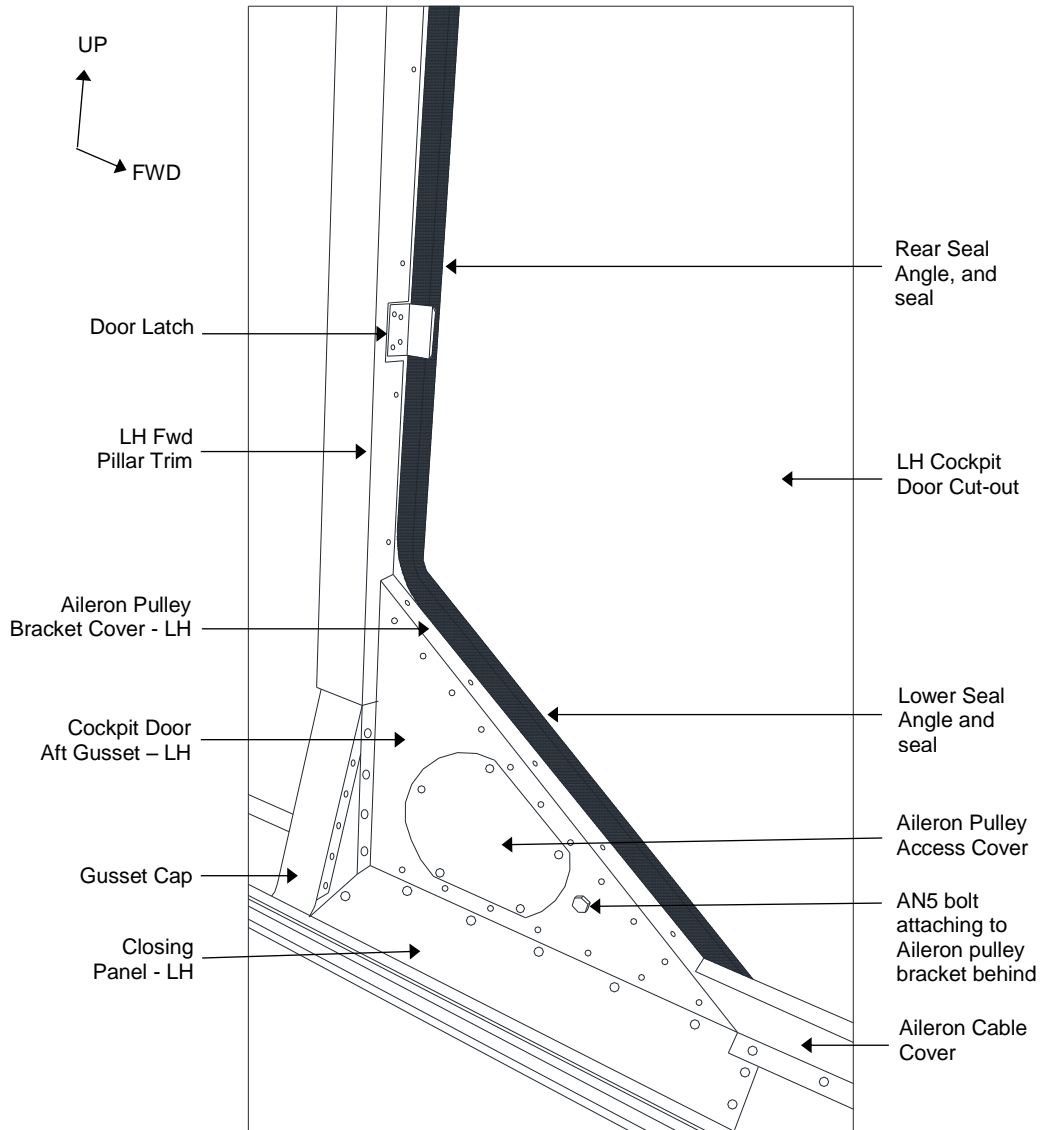
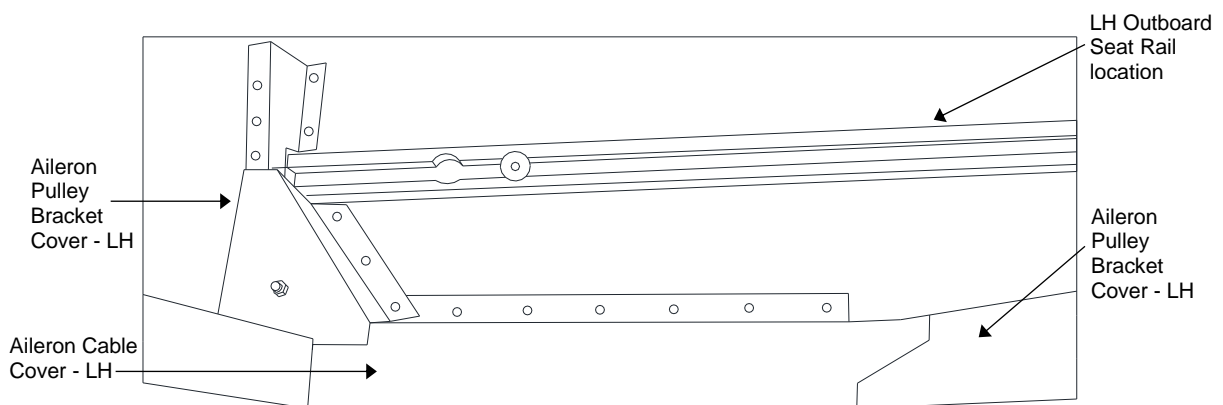
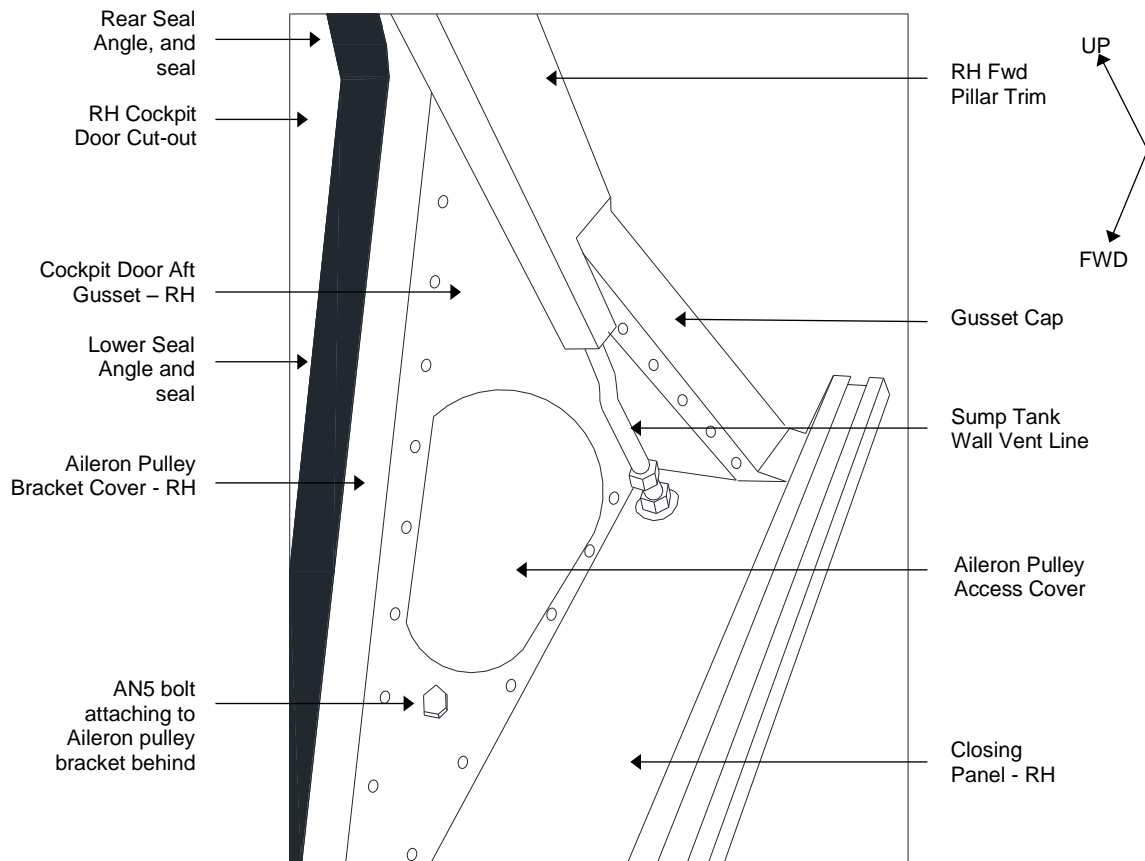

Figure 16: Cockpit Door Aft gusset – Component Removal at Rib 5 LHS
Figure 17: Structure forward of Aileron Pulley bracket cover which may need to be removed.
Figure 20: Cockpit Door Aft gusset – Component Removal at Rib 5 RHS
- 1) Remove the LH Fwd Pillar Trim (GA8-252025-093) (See Figure 16).
- 2) Remove the Rear Seal Angle (GA8-534027-023), Lower Seal Angle (GA8-534027-025) and the seals attached to them, to provide access to the Aileron Pulley Bracket Cover -LH (GA8-533022-091) (See Figure 16).
- 4) Remove the Aileron Pulley Access Cover (GA8-533022-171) (See Figure 16).
- 5) Remove the AN5 bolt from aileron pulley bracket, and remove spacer at rear of the Cockpit Door Aft Gusset – LH (GA8-533022-087) (See Figure 16).
- 9) Remove the Cockpit Door Aft Gusset - LH (See Figure 16).
- a. Aileron Pulley Bracket Cover – LH (GA8-533022-091) as shown in Figure 16 and Figure 17;
- 3) Remove the RH Fwd Pillar Trim (GA8-252025-095) (See Figure 20).
- 4) Disconnect the AN818 nuts attaching the Sump Tank Wall Vent Line (GA8-282015-029) at the cockpit floor and wing root areas (See Figure 20).
- 9) Remove the Aileron Pulley Access Cover (GA8-533022-171) (See Figure 20).
- 10) Remove the Rear Seal Angle (GA8-534027-024), Lower Seal Angle (GA8-534027-026) and the seals attached to them, to provide access to the Aileron Pulley Bracket Cover - RH (GA8-533022-092) (See Figure 20).
- 16) Remove the Cockpit Door Aft Gusset – RH (See Figure 20).
- a. Aileron Pulley Bracket Cover – RH (GA8-533022-092) as shown in Figure 17 and Figure 20;